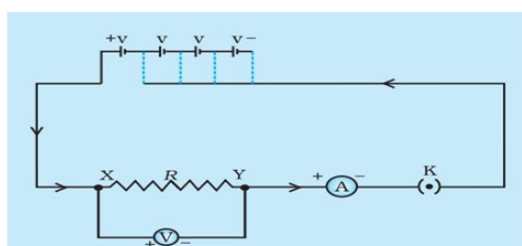

Fig. 7.1: Ohm's law experiment circuit diagram
In figure 7.1 a resistor  $R$  is connected to a variable d.c. battery through an ammeter  $A$  in series and a off/on switch  $K$ . A voltmeter  $V$  is connected across two terminal  $XY$  of the resistor. The battery can be a combination of several cells in series or a electronic d.c, power supply.
1. Make the circuit as shown in figure 7.1 using the equipments from No. 1 to 6. The positive end of the ammeter should be connected to the positive terminal of the power supply. Similarly the positive end of the voltmeter should be connected to the positive terminal X of resistor and negative to the Y terminal. Ammeter is to be connected in series with the resistor and voltmeter in parallel at points X and Y.
2. For the data connection plug in the key K and start from minimum current. Measure the current in ammeter (A) and voltage in voltmeter (V) note down the readings in column 2 and 3 in the above table. Repeat the measurements by increasing the current in resistor by varying the potentiometer of d.c, power supply. Measure the corresponding values of voltage from voltmeter and enter in the table.